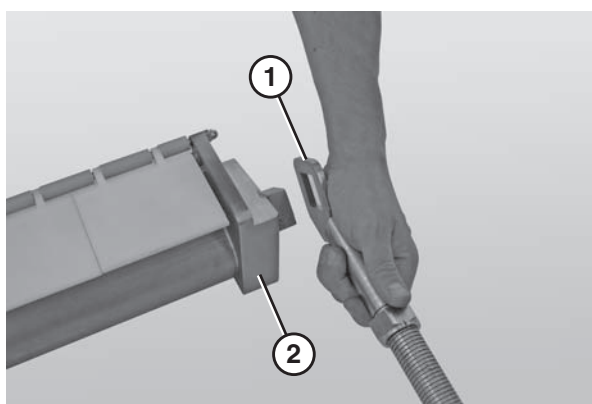

Figure 71
3. Slide the nose bar shafts (**Figure 71, item 1**) off of the nose bar weldment (**Figure 71, item 2**).